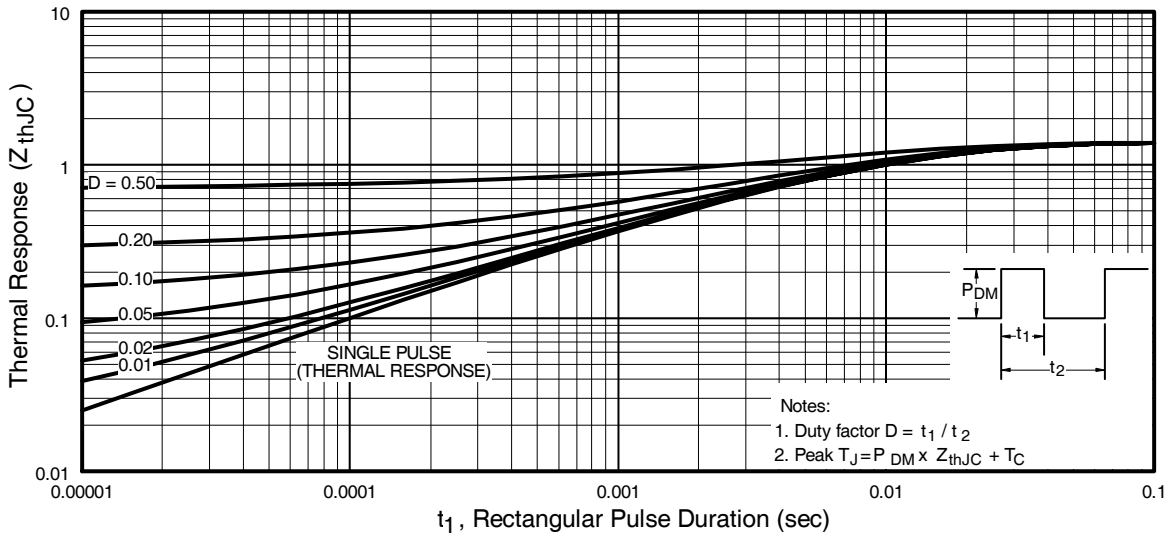

Fig 11. Maximum Effective Transient Thermal Impedance, Junction-to-Case
- ① Repetitive rating; pulse width limited by max. junction temperature. (See fig. 11)
- ② Starting T_J = 25°C, L = 0.48mH